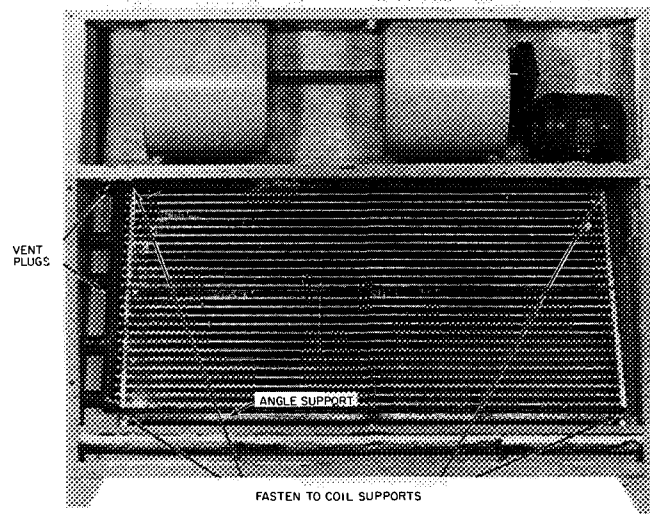

Fig. 3 — Hot Water Coil Mounted Unit with Back Panels Removed (Typical for 40RR016,024)
5. Fasten coil to support angles with sheet metal screws included in bag of fasteners. See Fig. 3.